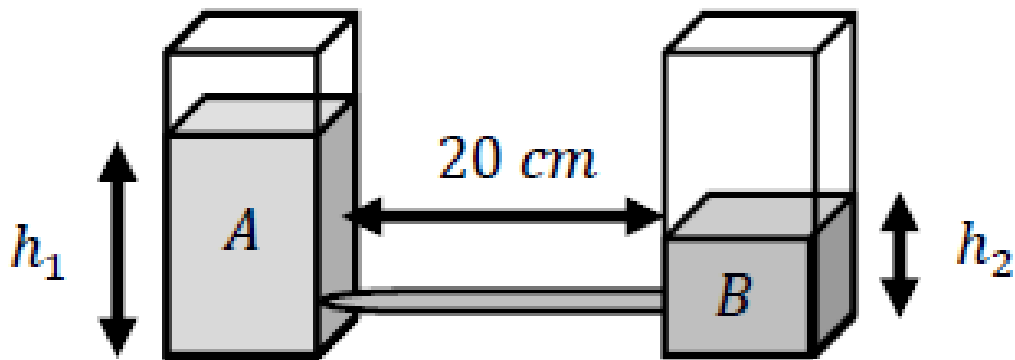

Figure 1: Blood flows between two reservoirs
17. In a dialysis machine, blood flows from reservoir A to reservoir B, through a horizontal capillary with a length $l = 20\text{ cm}$ and a diameter $d = 2\text{ mm}$ (see Figure 1). The filling height of reservoir A, $h_1 = 15\text{ cm}$ and the filling height of reservoir B, $h_2 = 10\text{ cm}$. Blood has the following properties: (15.03.2022)